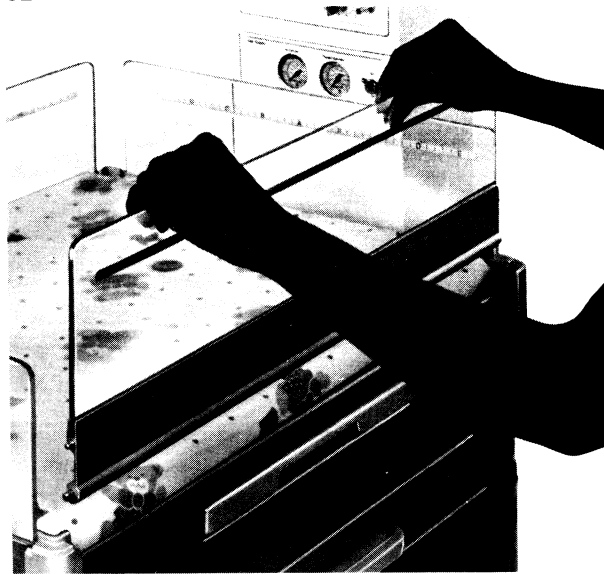

FIGURE 4.1 REMOVING BASSINET SIDE PANELS
1. Remove both Bassinet Side Panels (Figure 4.1) by pulling them straight up.